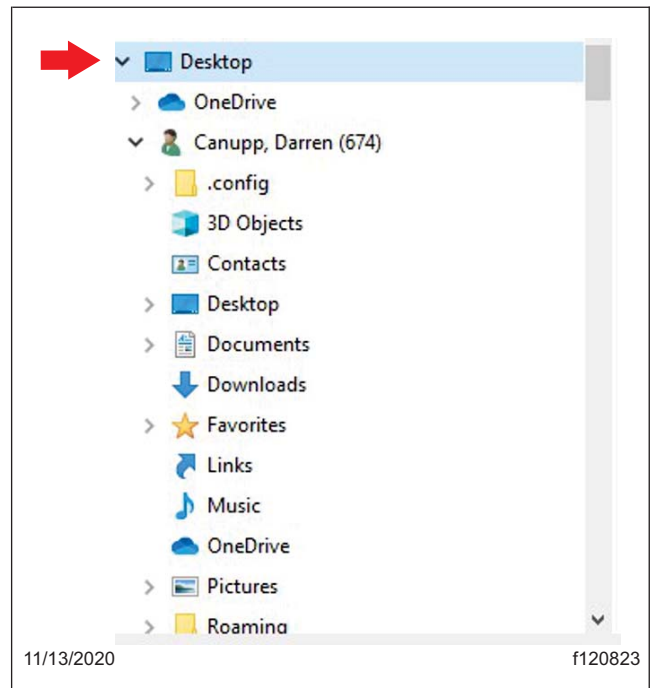

Fig. 5, Saving the File to the Desktop
8. A window will open, asking where to save the file; select 'Desktop,' as shown in Fig. 5.